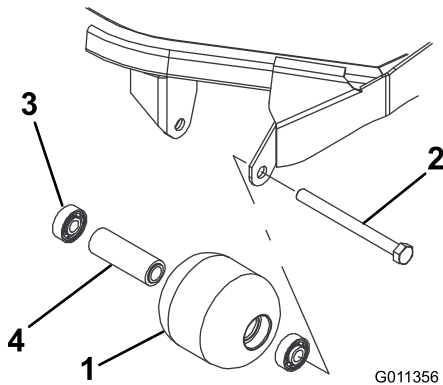

Figure 72
1. Remove the roller mounting bolt (Figure 72).
1. Press the first bearing into the roller housing (Figure 72). Press on the outer race only or equally on the inner and outer race.
2. Insert the spacer (Figure 72).
3. Press the second bearing into the roller housing (Figure 72) pressing equally on the inner and outer race until the inner race comes in contact with the spacer.
4. Inspect the roller housing, bearings, and bearing spacer for damage (Figure 72). Replace damaged components and assemble.